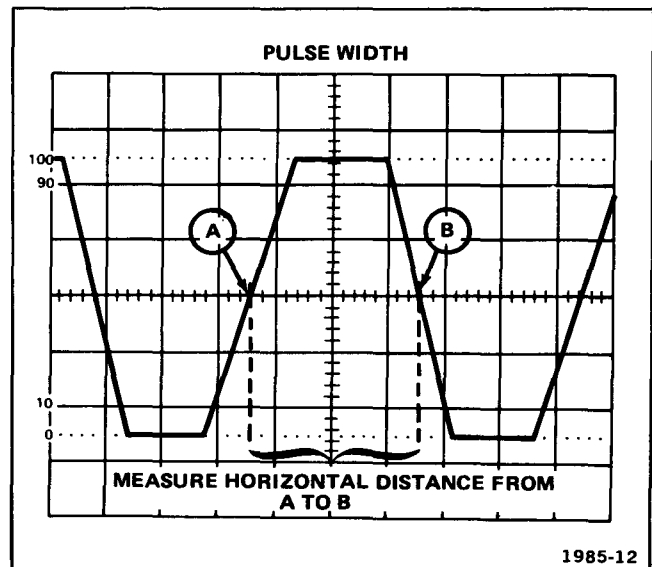

Fig. 1-8. Measuring the pulse width of a displayed waveform.
6. Set the TIME/DIV switch and POSITION control for 1 complete pulse displayed within the center 8 graticule divisions as shown in Figure 1-8.
7. Measure the horizontal distance in divisions between the 50% amplitude points of the displayed pulse (see Figure 1-8).
Example: Assume that the horizontal distance between the 50% amplitude points is 3 divisions, and the TIME/DIV switch setting is  $.1 \text{ ms}$  (see Figure 1-8).